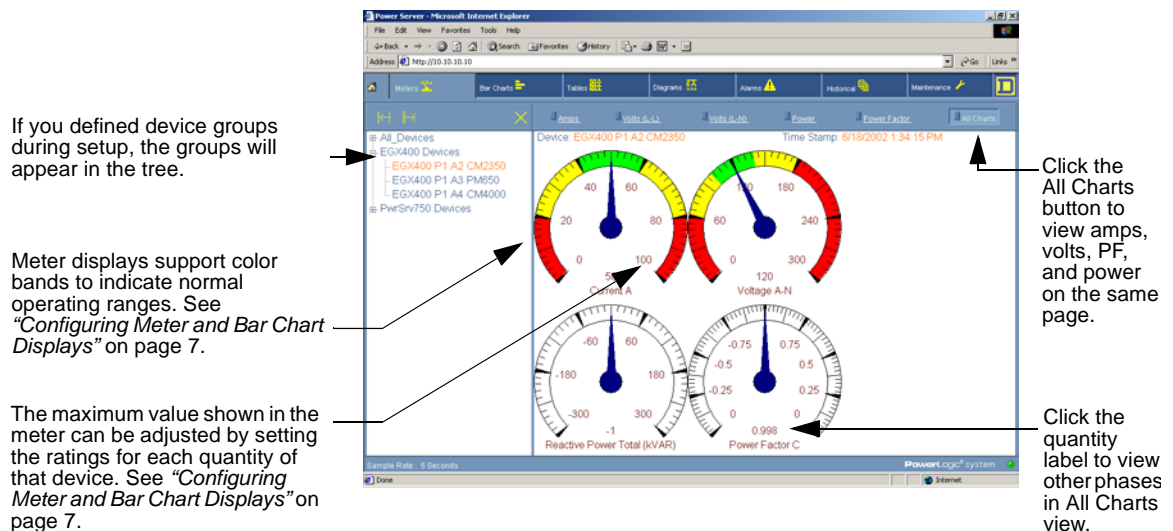

Figure 2: The Meters page in All Charts mode
1. Click the Meters tab (see Figure 2).